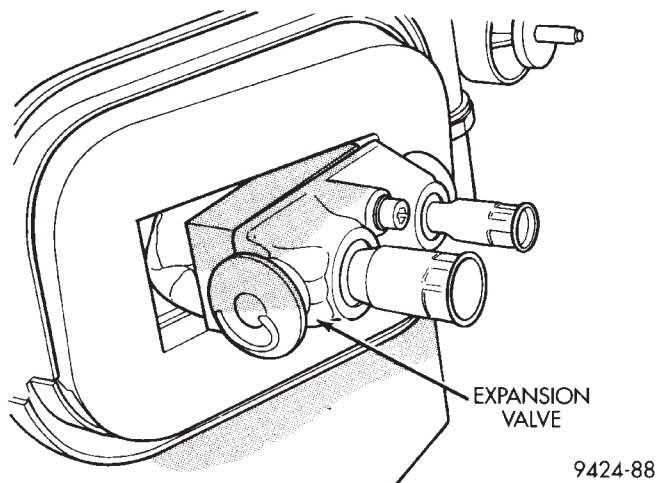

Fig. 46 Expansion Valve
(1) Remove refrigerant from the A/C system using a refrigerant recovery machine.
(2) Remove engine air inlet tube and the air distribution duct on vehicles equipped with 3.5 liter engine.
(3) Disconnect A/C lines from expansion valve. Use special tool 7193 to disconnect quick connector on expansion valve.
(4) Remove two retaining bolts from expansion valve.
(5) Remove expansion valve (Fig. 46).
(6) Remove expansion valve gasket.